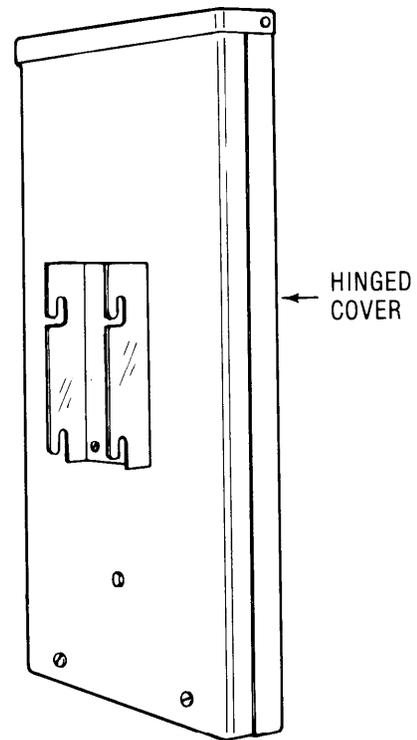

Fig. 11 — WP Series Cable Terminal (Rear View)
- (b) Back off the four fastening screws on the back of the mounting bracket sufficiently to engage into the slots (Fig. 11) of the terminal housing mounting bracket.